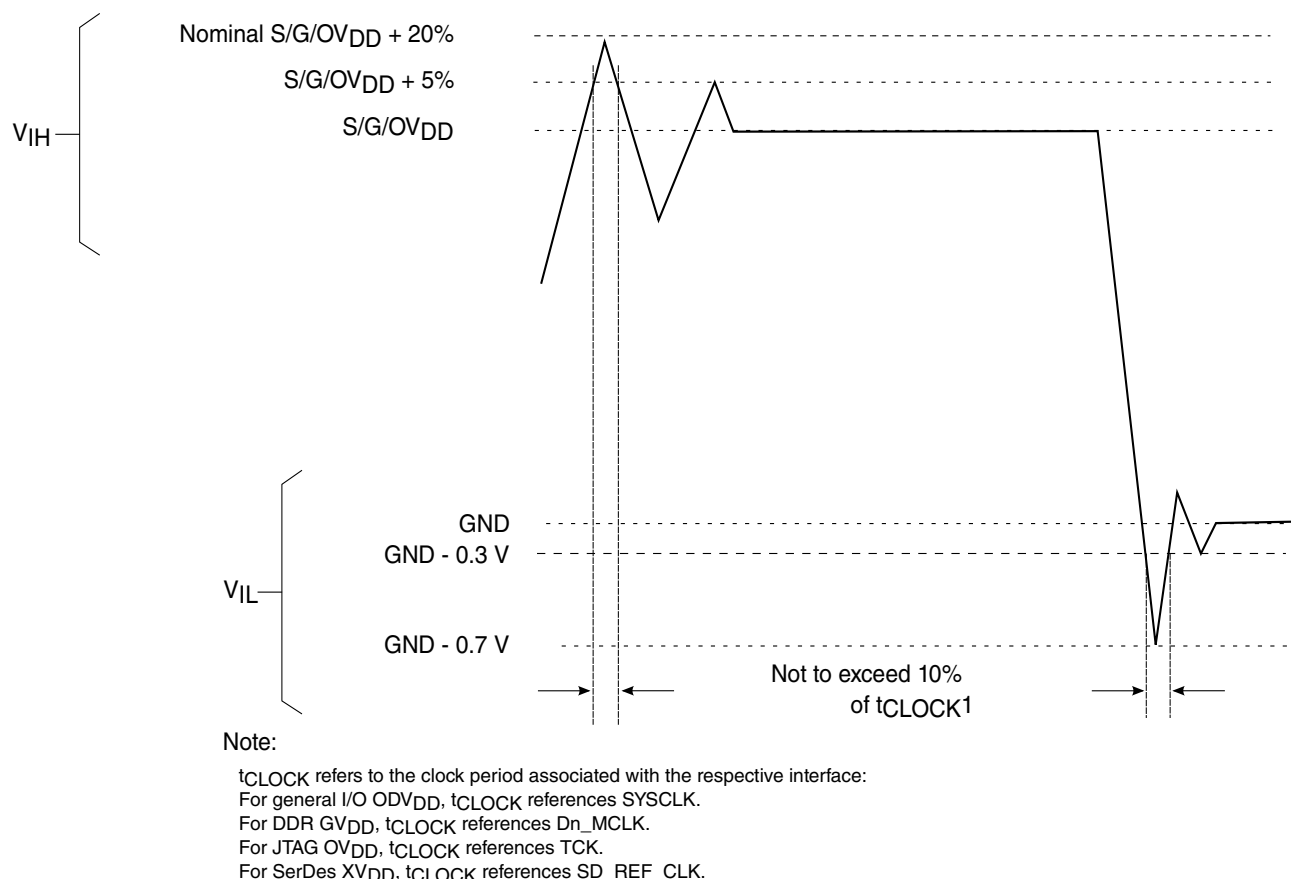

Figure 7. Overshoot/Undershoot voltage for GV_{DD}/OV_{DD}/SV_{DD}
4. SV_{IN} , USB_HV_{IN} , USB_SV_{IN} may overshoot/undershoot to a voltage and for a maximum duration as shown in Figure 7 .